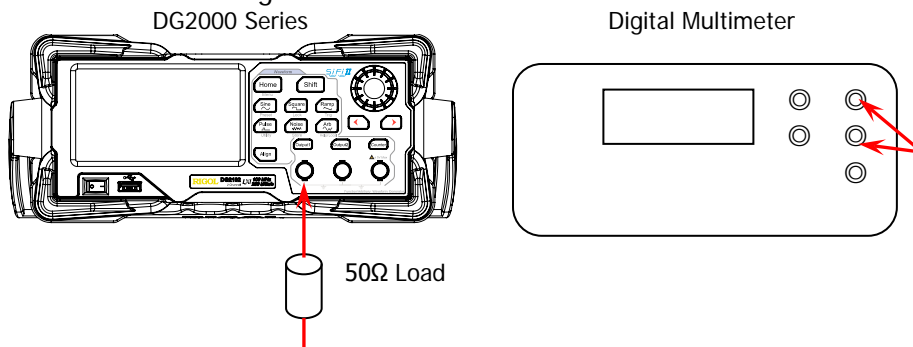

Figure 2-2 Connect DG2000 and the Digital Multimeter via a 50Ω Load
1. Make sure that the environment temperature is between 18°C and 28°C and DG2000 has been warmed up for at least 30 minutes. Connect the 50Ω load to the channel output terminal (take CH1 as an example; the test method is also applicable to CH2) of DG2000; connect the 50Ω load and the voltage input terminals of the digital multimeter using a BNC-Dual banana plug connecting cable as shown in Figure 2-2.
- Make sure that the environment temperature is between 18°C and 28°C and DG2000 has been warmed up for at least 30 minutes. Connect the 50Ω load to the channel output terminal (take CH1 as an example; the test method is also applicable to CH2) of DG2000; connect the 50Ω load and the voltage input terminals of the digital multimeter using a BNC-Dual banana plug connecting cable as shown in Figure 2-2.